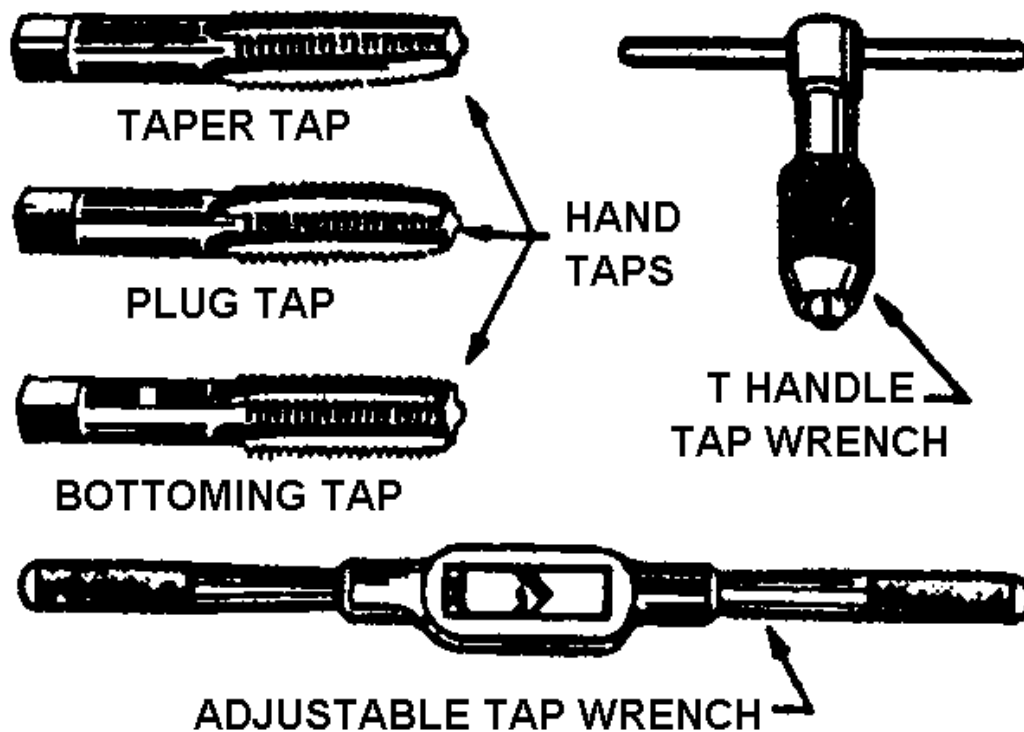

Figure 10, Hand Taps and Tap Wrenches.
- **Taps:** A tap is used to cut threads on the inside of a round hole. It's a hardened tool steel screw with flutes, or grooves, cut lengthwise across the threads to form cutting edges. The tap is screwed into the hole, and the cutting faces formed by the grooves cut the threads into the wall of the hole. You screw a tap into the hole by using a special wrench to give you the necessary leverage. Common types of hand taps are the taper, plug and bottom taps, as shown in Figure 10. The taper tap is tapered at the end 7 to 9 threads, to help start the tap in the hole. It's used when the hole goes all the way through the work. The plug tap is also tapered, but only for 2 1/2 to 5 threads. After you start the thread with the taper tap, use a plug tap to cut to the maximum length. You may also use a plug tap when one end of the hole is closed. The bottoming tap has only one thread on the end that is chamfered or beveled. Use this tap when you need to cut full threads all the way to the bottom of a blind hole. Before a tap is used, the hole must be drilled to the correct tap drill size. The tap drill size is the size of the drill that should be used to leave the proper amount of material in the hole for the tap to cut a thread. The tap drill, which is always smaller than the tap, leaves enough material in the hole for the tap to produce 75 percent of a full thread.